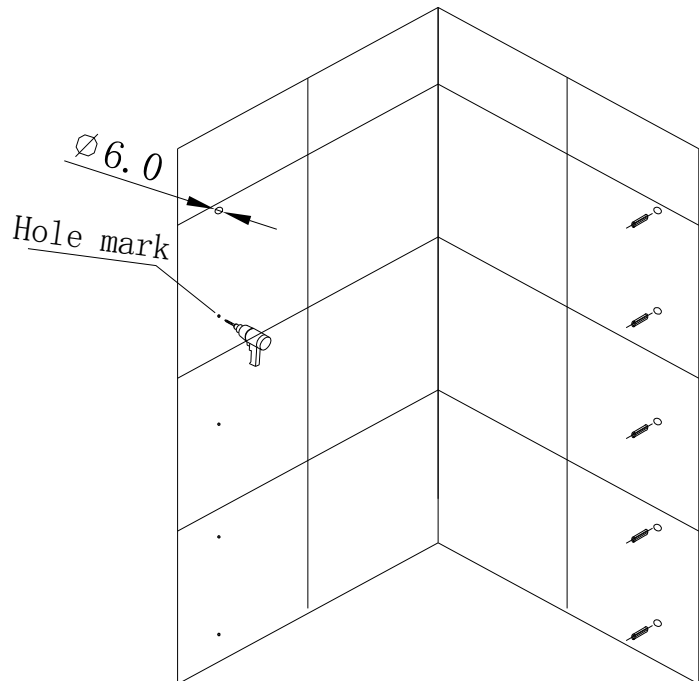

Fig. 2
- 2). Drilling the holes (10-- ϕ 6mm) according the mark, insert the plastic plug into the hoes, As FIG. 2.